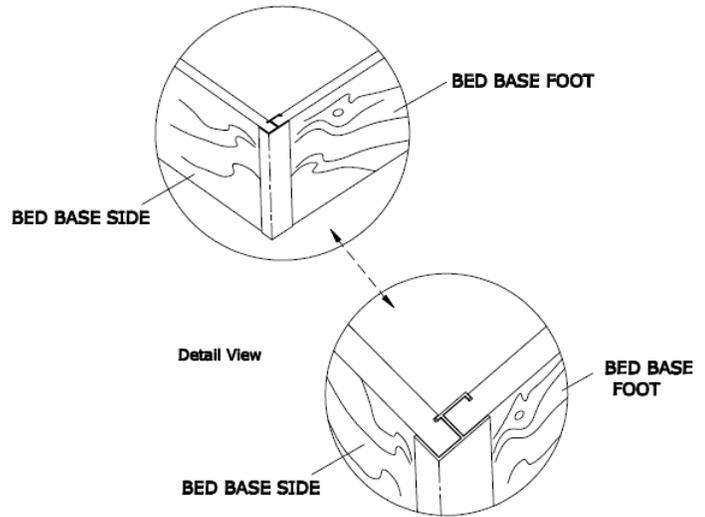

Fig. 1 & 2
1. Make sure the (3) slots in the sideboard are on the top and the finished edge is on the bottom. (MANTUA finishes the bottom edge to prevent the moisture from carpet cleaning seeping into the board.) Connect a sideboard (long piece), to the foot board (short piece) using a corner connector. (See figures 1 & 2.)
After determining the proper position, slide the connector onto the sideboard so that the edge of the connector fits into the groove on the board. Then slide the foot end onto the connector at a 90° angle using the groove on the inside as a guide. Be sure to put the finished side down. (See figures 1 & 2.)